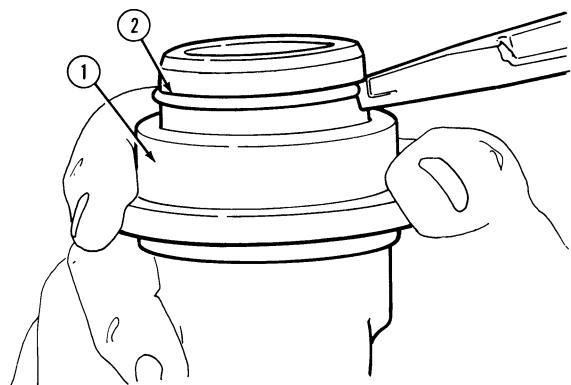
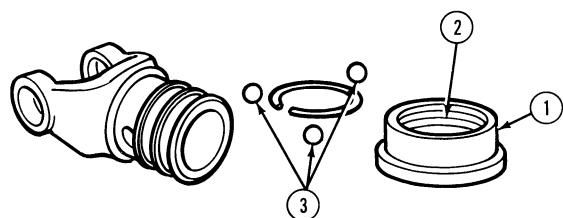

Figure 4
Figure 5
- Depress the lock collar (1), Figure 4, and remove the snap ring (2). Remove the lock collar (1), compression spring (2) and balls (3), Figure 5. Examine all parts for nicks or burrs. Replace parts as required.
- Install the balls (3), Figure 5, compression spring (2), and lock collar (1). Compress the spring with the lock collar and install the snap ring.